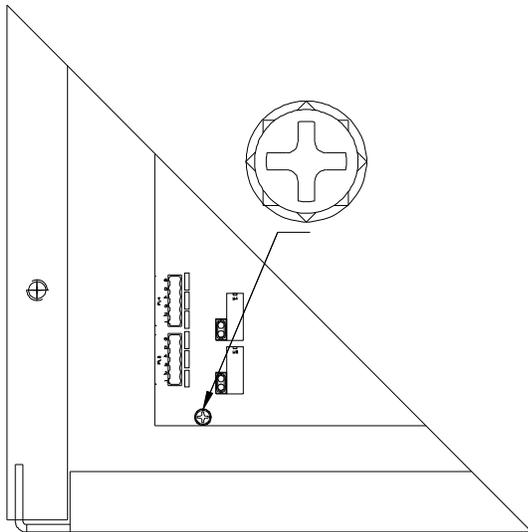

FIGURE 9
16. Install the Intellimeter electronic assembly (see Figure 9); insure electronic assembly is a “-120” meter for 120/208 or a “-277” meter for 277/480 or “-346” for 346/600 volt service. Adjust tamper switch if necessary. Plug the three input connectors into the proper headers labeled PL11, PL4 and PL5 . Observe the keying of the connectors.
17. If a local display is to be used, install display per Figure 9 before power is applied.